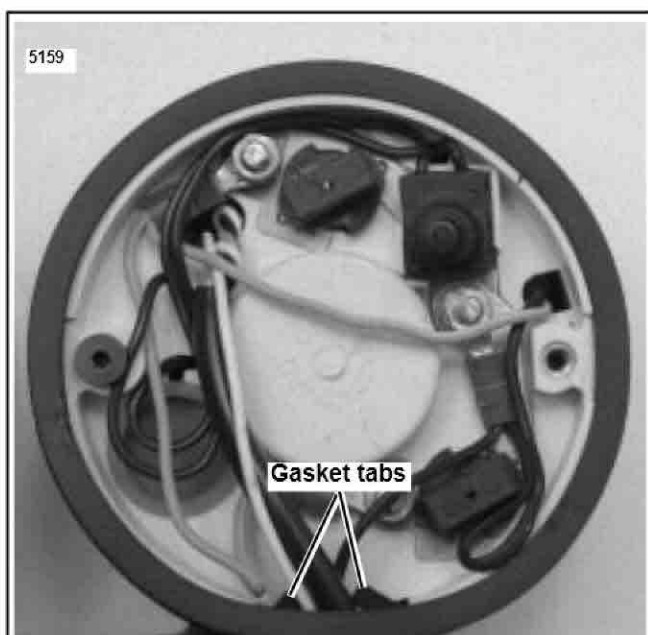

Figure 6. Rear Cover Removed from Speedometer
3. See Figure 6. Place rear gasket in position and align gasket tabs. Work gasket into space between gauge and bracket by pushing gauge against one side of bracket while pushing gasket into position at the